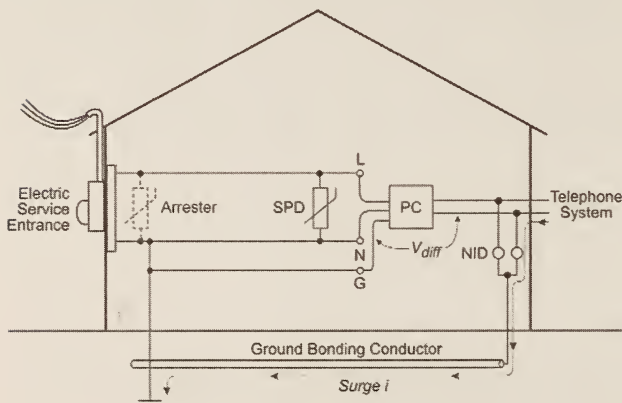

Figure 1
In the set-up of Figure 1, a personal computer (PC) is connected to both the power system and the telephone system, and we assume that a surge is coming along the telephone wires. The surge current ("Surge I" in the figure) flows from the telephone system toward the common grounding point via the network protective device (NID) at the point of entry, and the grounding conductor mandated by the National Electrical Code (NEC®). This current produces a magnetic field that couples into the loop formed by the power branch circuit, the telephone premises wiring lines to the PC, and the bonding conductors. A voltage (V_{diff}) is induced in the loop and appears across the power input and telephone input of the PC, with upsetting or damaging consequences. The presence or absence of surge protection on the AC side (Arrester or SPD) has no effect on the coupling. One effective solution is to have the consumer install a combined protector, as explained on page 12.